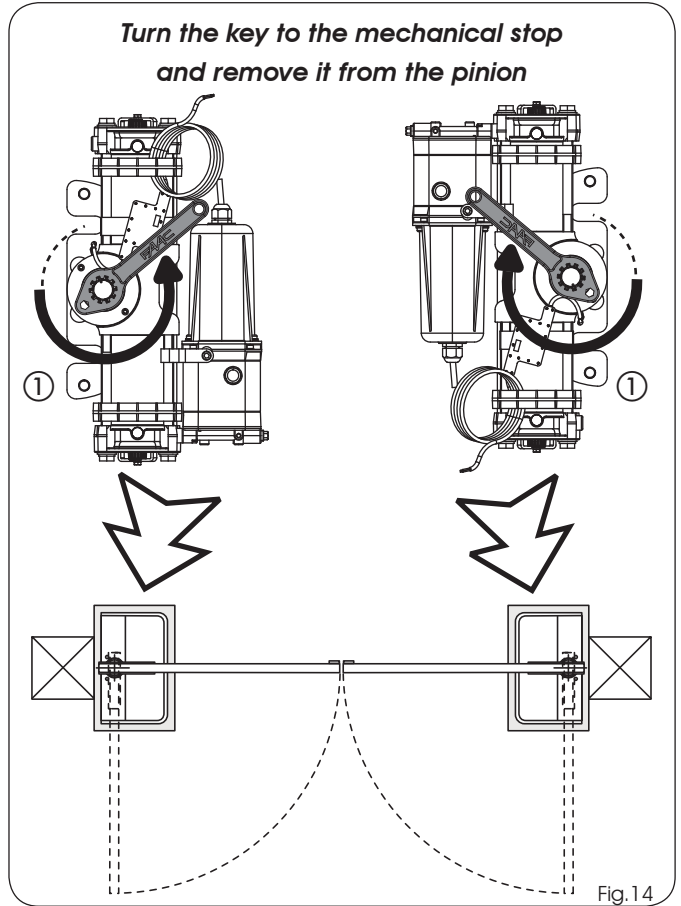

Fig.14
- 5) Turn the pinion of the operator using the supplied key (Fig.14 ref.①), in the direction the gate closes, until it reaches the internal stop of the piston and remove the key.